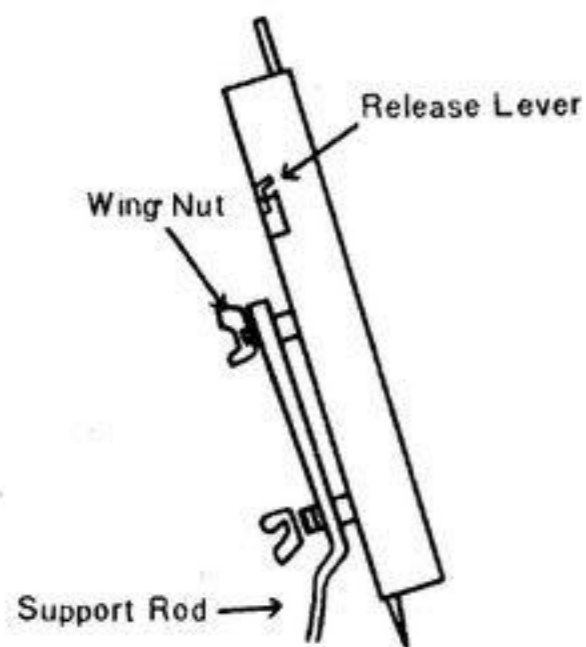

Fig. 62
1. **Assembling**: Attach the support rod to the back of the "Pattern Master" and tighten both wing-nuts. (Fig. 62)